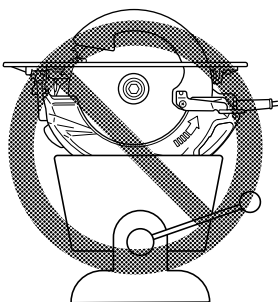

Fig. 4
*This is extremely dangerous and can lead to serious accidents. (Fig. 4)*